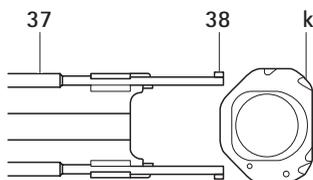

Fig. 22 Hooks of anchoring rods facing outwards
- ▶ Turn the anchoring rods **36** so that both hooks **37** are pointing outwards, see Fig. 22.